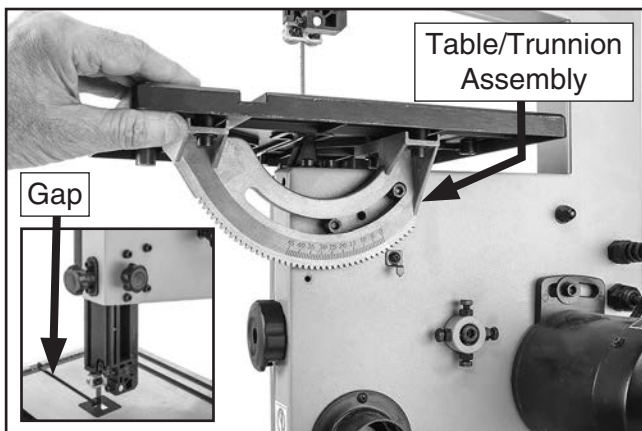

Figure 11. Table/trunnion positioned on saw.
2. Slide gap in table around blade, and mount table/trunnion assembly to main saw body as shown in **Figure 11**.